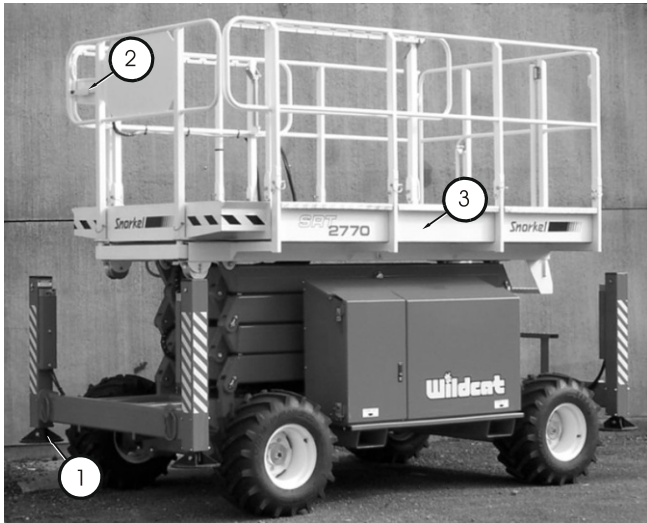
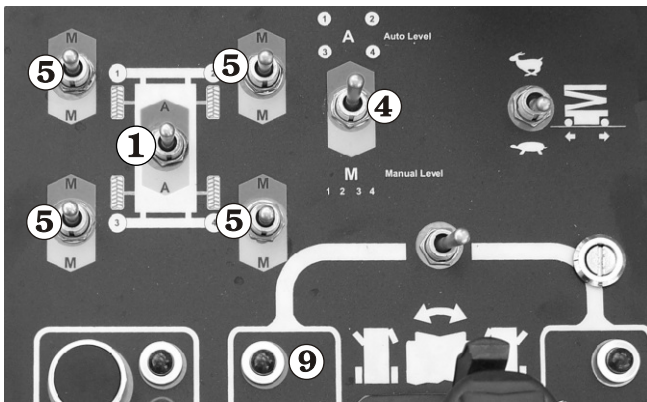
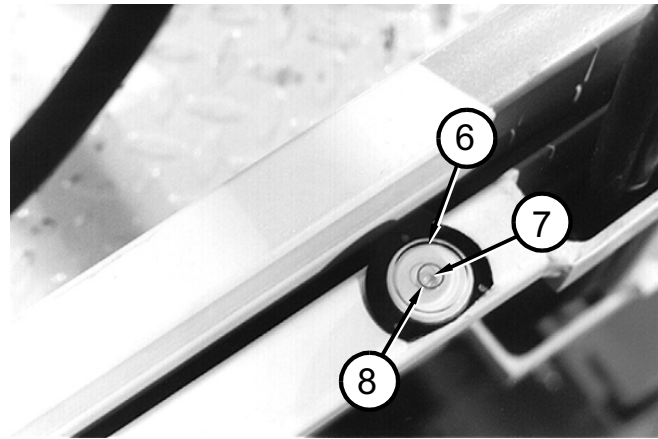

Figure 8.28
Figure 8.29
Figure 8.30
1. Check to see that the ground under the four stabiliser pads **1** (see Figure 8.28) is firm, stable, and unobstructed.
2. Completely lower the platform **3** (see Figure 8.28).
3. The engine must be running and the SR set for platform control box **2** operation (see Figure 8.28).
4. Set switch **4** to manual mode (see Figure 8.29).
5. Operate each individual switch **5** (see Figure 8.29) one at a time, until all four stabiliser pads **1** contact the ground (see Figure 8.28).
6. Visually check the bubble level **6** (see Figure 8.30) to determine which stabilisers must be further extended to level the platform **3** (see Figure 8.28).
7. Lower the appropriate stabilisers just enough to center the bubble **7** (see Figure 8.30). When the **Lift Indicator Light 9** (see Figure 8.29) comes on, the platform can be safely raised.